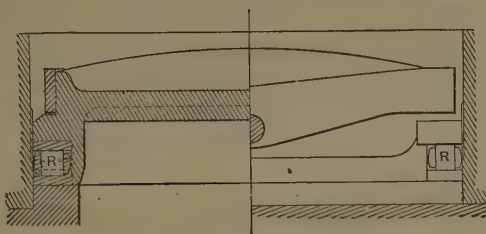

Fig. 144. Bristol Roller Valve.
A. The valve rested in a number of small rollers *RR* (Figs. 144, 145), each side connected to a frame, their axles